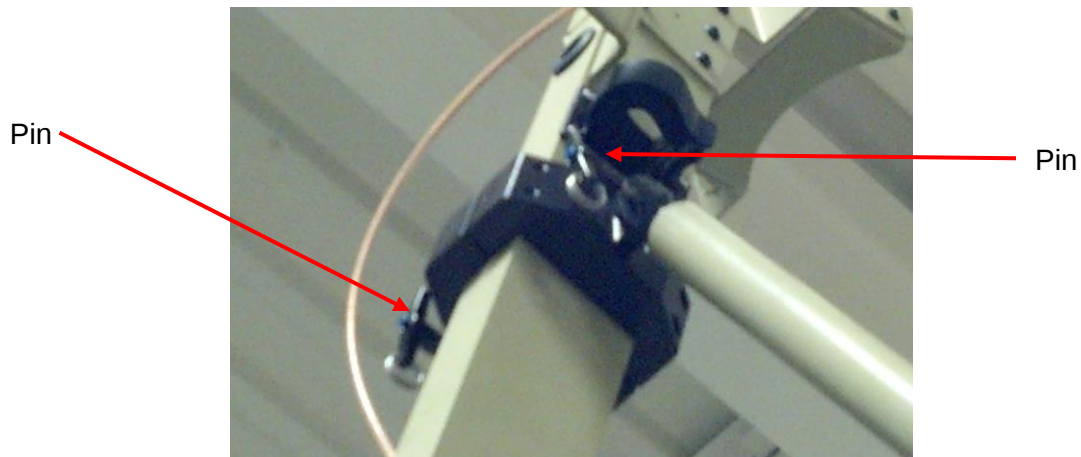

Figure 33. Attaching Feed Struts to Feed Boom
19. Attach feed struts to the feed boom using captive ball detent pins as shown in Figure 33.
20. Remove captive ball detent pin as shown in Figure 33 before lifting feed boom.